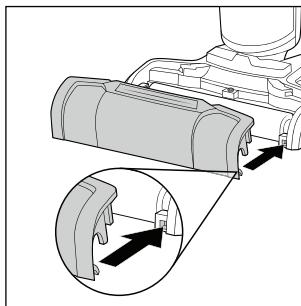

Fig. 41
- ◆ Replace the splash guard **7** by first aligning it with the bracket on the foot section **3** (see fig. 41).